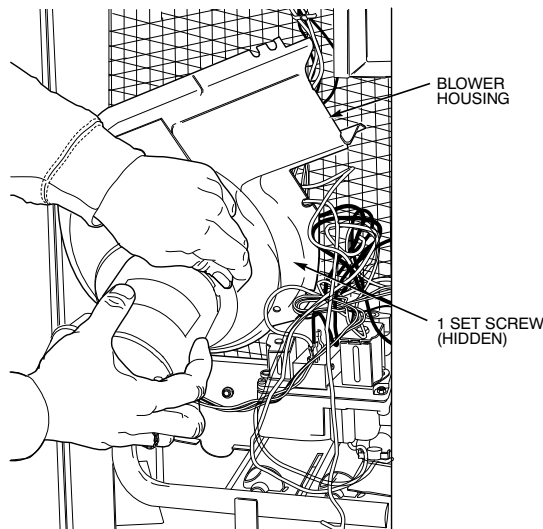

Fig. 33 – Removing Inducer Assembly
15. Remove 5 screws holding Inducer Assembly (see Fig. 33) and remove assembly.